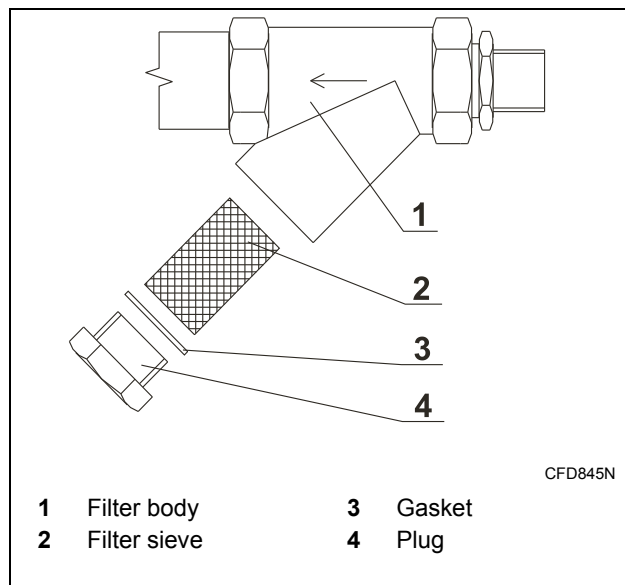

Figure 21
2. Unscrew the filter plug (*Figure 21*, pos. 4) and remove the filter sieve (2).
4. Put the sieve (2) and gasket (3) back on the filter body (1) and tighten the plug (4).